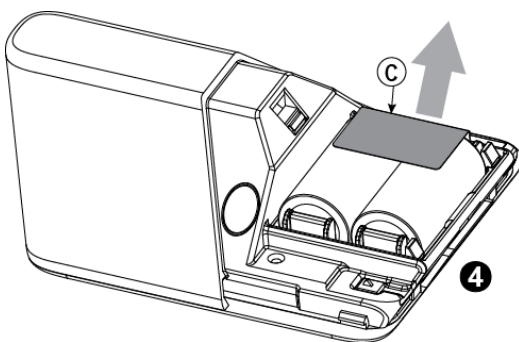

Figure 5 – Removing activation strip
2. To activate, pull the activation strip that protrudes from the back of the detector (see Figure 5).